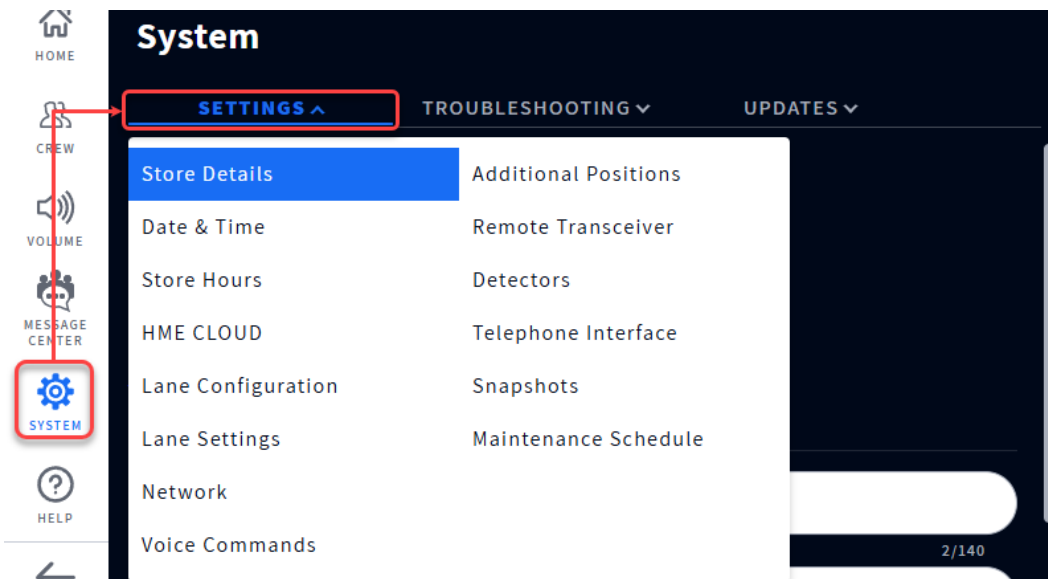

Fig. 5.1
**Store Details:** Store name, number, and address are recorded here (blue selection in Fig. 5.1). Your store number is located here in full and also appears at the top of the Home screen. However, if your store number is longer than six digits, it will be truncated on the Home screen. This area of the Home screen only has the space to support the last six digits.